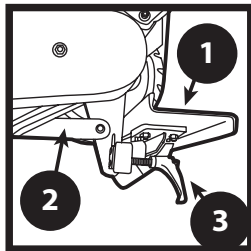

FIGURE 7
1. Adjust the work support and work support arm to the desired position with the Attachment Locking Lever (Figure 7). Take care that the gap between the face of the abrasive belt and the work rest is at most 1/8 inch. **WARNING: Be aware that thin section work pieces can pass through this gap if the gap is not properly adjusted. Ejected work parts can cause serious personal injury!**